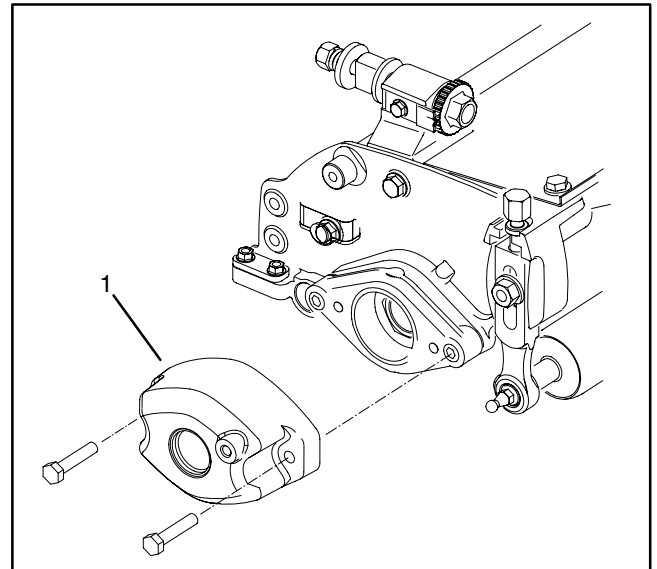

Figure 17
2. Remove the 2 capscrews securing the counter weight to the side plate (Fig. 17). Remove the counter weight.